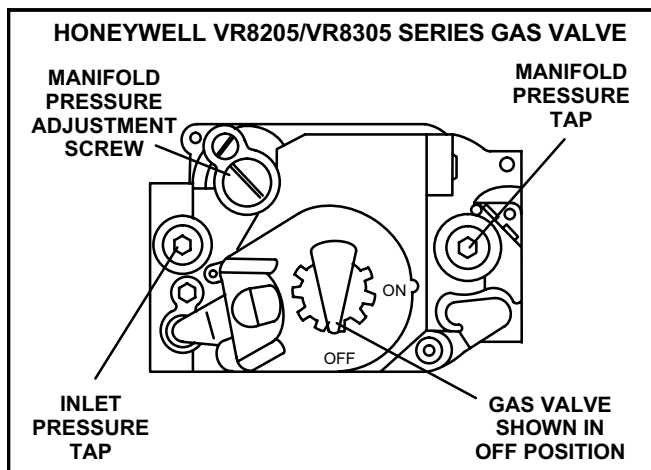

FIGURE 3
- 2 - After gas line pressure has been checked and adjusted, check manifold pressure at the pressure tap on the outlet side of the gas valve. The correct manifold pressure for LP/propane gas is given in table 1. Refer to figure 3 for gas manifold pressure adjustment screw location.